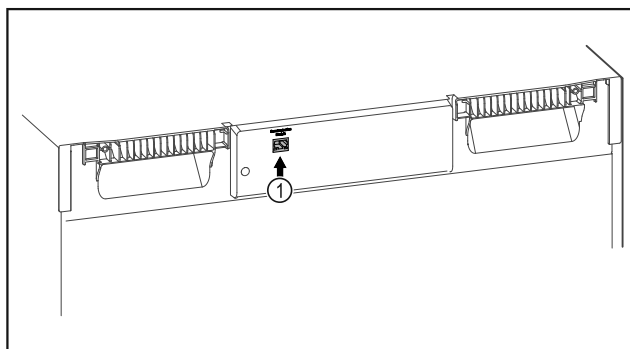

Fig. 106
- ❑ SmartModule Fig. 106 (1) is in use.